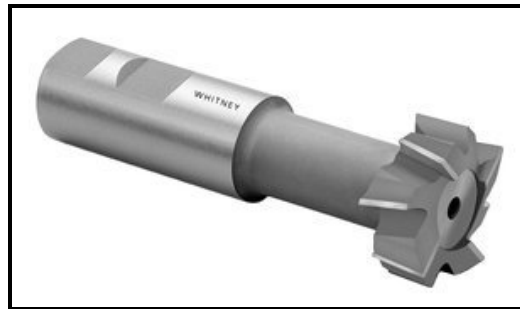

FIGURE 1.3
- D Looseness (slack) in the table feed screw must be eliminated. (1)
1.9 Identify the milling cutter in FIGURE 1.3 below.